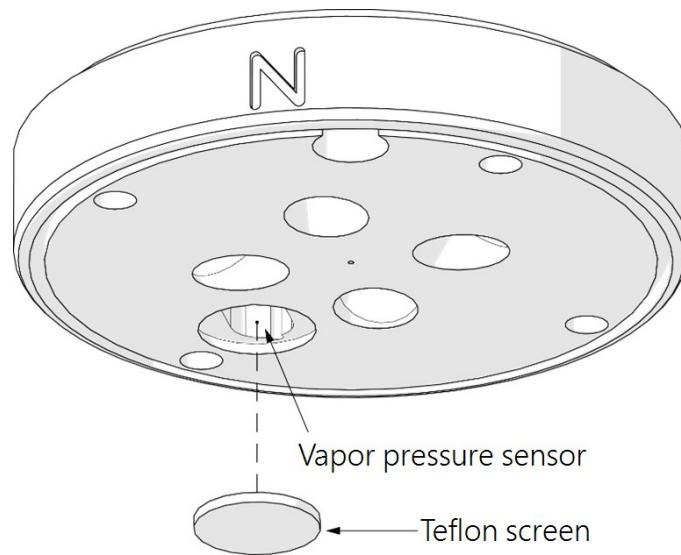

FIGURE 9-4. Teflon screen
4. Inspect the Teflon screen (FIGURE 9-4 (p. 33)) and replace if dirty.
7. Relative humidity and barometric pressure maintenance. A field-replaceable module contains the barometric pressure and relative humidity sensors. This module is under the Teflon screen (FIGURE 9-4 (p. 33)) and should be replaced every two years.